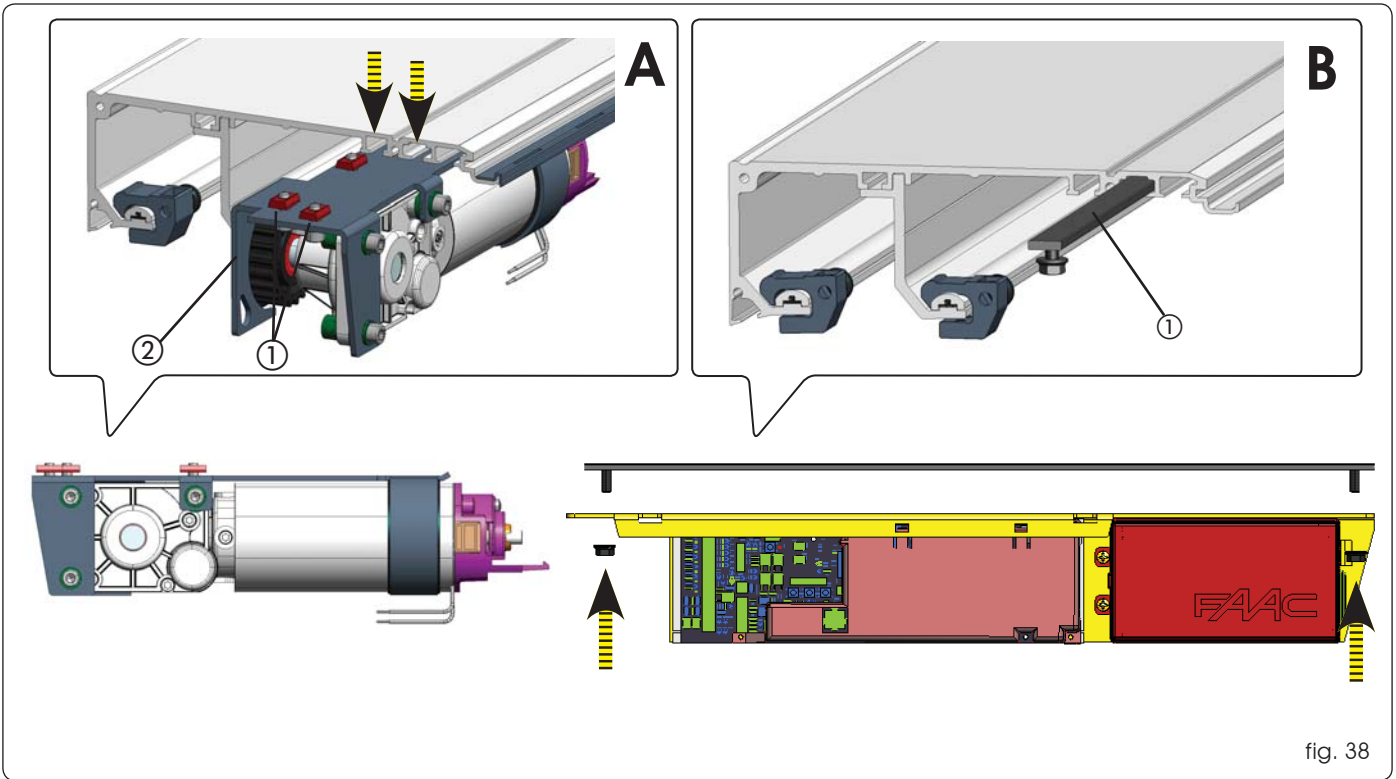

fig. 38
Then insert the electronics module and secure it using the two rod bolts. (fig.38 B ①)
Insert 3 small plates sideways of the profile and secure the motor with the 3 screws to the support profile (fig.38 A ①).
On the motor bracket there is a gauge with a belt lift-proof function (fig.38 A ②)